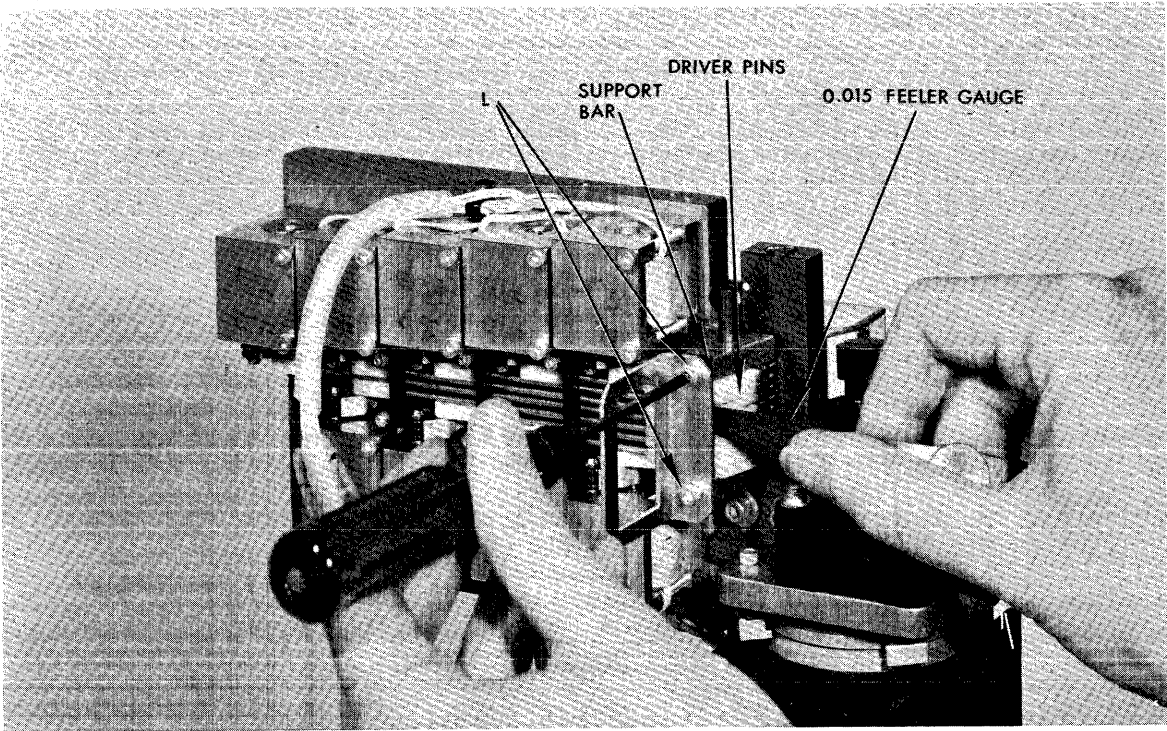

Figure 6-5. Adjustment of Support Bar and Support Bracket.
- a. Remove the two 4-40 binder head screws (L) which hold the support bracket, support bar and connector to the perforator housing. Earlier units have two 0.005 shims on each side installed between the support bar and perforator housing. Care should be used not to lose these shims. Note the order of assembly for correct replacement. Screws labeled (L) in Figure 6-5 are the same screws labeled (L) in Figure 7-1.
- b. In the hole from which the screws in step a were removed, loosen the two set screws (M) which hold driver pin in place. Remove the pin.
- c. Remove the 8-32 socket head screw (G) and washer of the solenoid associated with the pin driver to be remove. This screw is located on the opposite side of the housing from the solenoids. Solenoids 4, 5, 6, 7 and 8 require that the side plate be removed to gain access to the screw (G). Two screws (N) and two washers (washers on under side of plate) are used to hold the side plate to the perforator housing.
- d. Remove screws (P) which hold the pin driver guides to the perforator housing. Remove as many guides as required to replace the pin driver. Note that these screws have had screw lock applied and may be somewhat difficult to loosen. When replacing these screws add a new application of screw lock.
- f. Perform the reverse of step d, c, b, and then a. When installing the support bar and support bracket, make sure the two 0.005 shims (if present) are installed under the support bar. Use a feeler gauge to obtain a 0.015 gap between the support bar and the top of the driver pins. Refer to Figure 6-5.